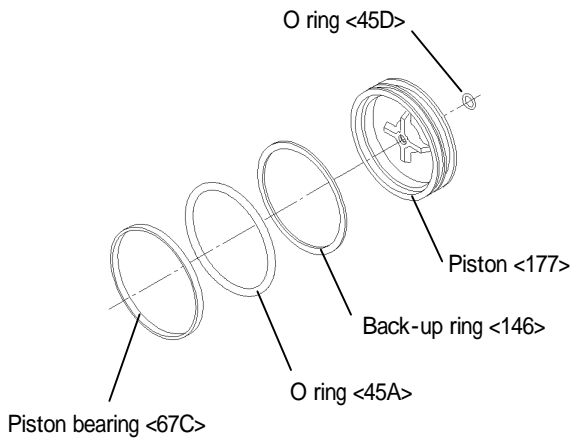

Fig.8
- (1) Lubricate a larger O-ring, a smaller O-ring, a bearing, and a back-up ring with Kyodo Oil MULTEMP AC-J lubricant or the equivalent, and assemble them with the piston (Fig.8). Contact KITZ Corporation for advice, if this lubricant is not available.